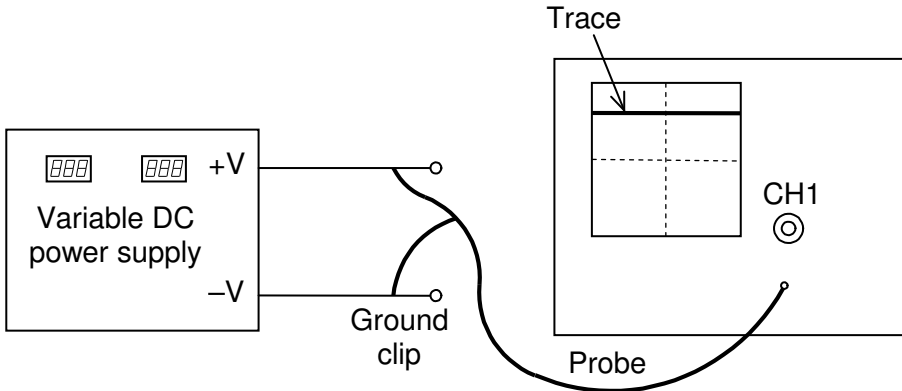

Fig. 1.7. Measuring DC voltage
6. Connect the output of the variable DC power supply to the input of the oscilloscope as shown in Fig. 1.7.
8. Connect the probe as in Fig. 1.7 and set VOLTS/DIV to 1 V. Set the output of the variable DC power supply to 2 V and note the beam deflection on the screen. From the deflection, compute the measured voltage. Fill in the table after doing step 9.